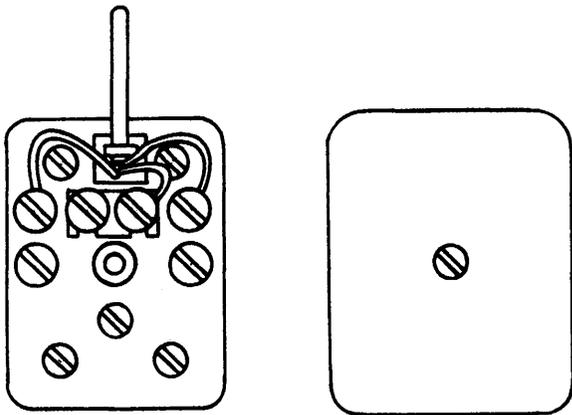

Figure 9. Murdock Number M-53 Connecting Block.
2.08 The Murdock number M-53 connecting block is a three-conductor device with six screw terminals arranged within a shell-type base of molded phenolic and provided with a cover of the same material which is secured by a captive screw in the center (Figure 9). A cord-entry point at one end is arranged for wing-band strain relief, but the design is not suitable for S-hook or ring-band termination. A recessed area within the block accommodates the line cord conductors, and an opening partly in the side and partly in the under surface serves as an entry point for station wiring. No provision is made for intertwining the station wire conductors to secure them in place. The shallow cover is notched at one end for cord entry.